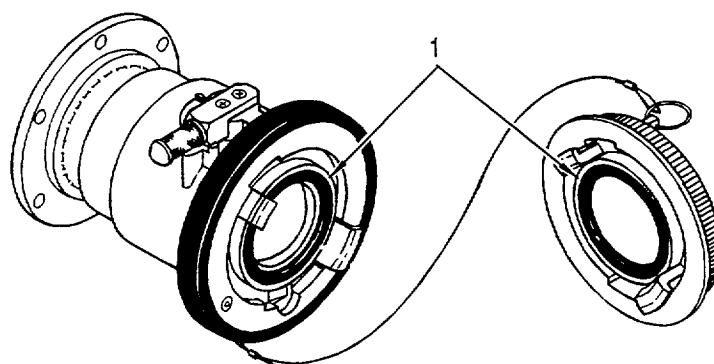

Figure 3-1. Face Seal and Dust Cap Seal
a. Removal. (Figure 3-1)
1. Remove face seal (1) by hand.
b. Installation. (Figure 3-1)